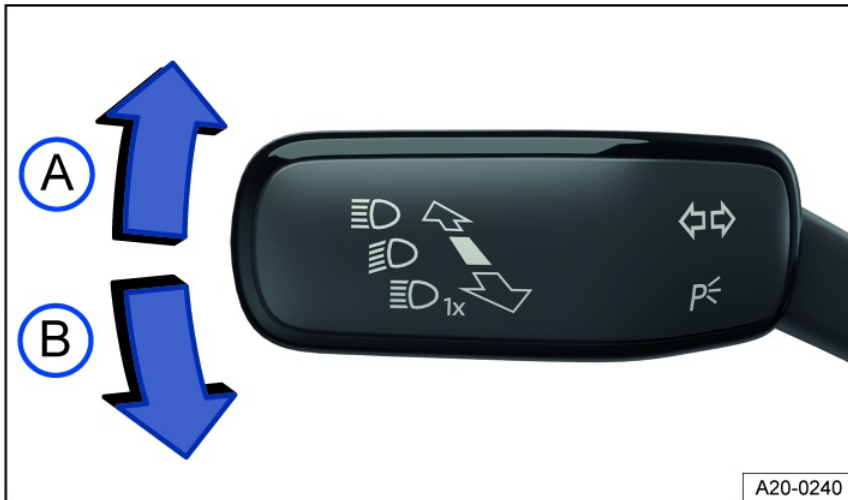

Fig. 100 On the left side of the steering column: turn signal and high beam lever.
2. Move the turn signal and high beam lever from the center position to the preferred position fig. 100.